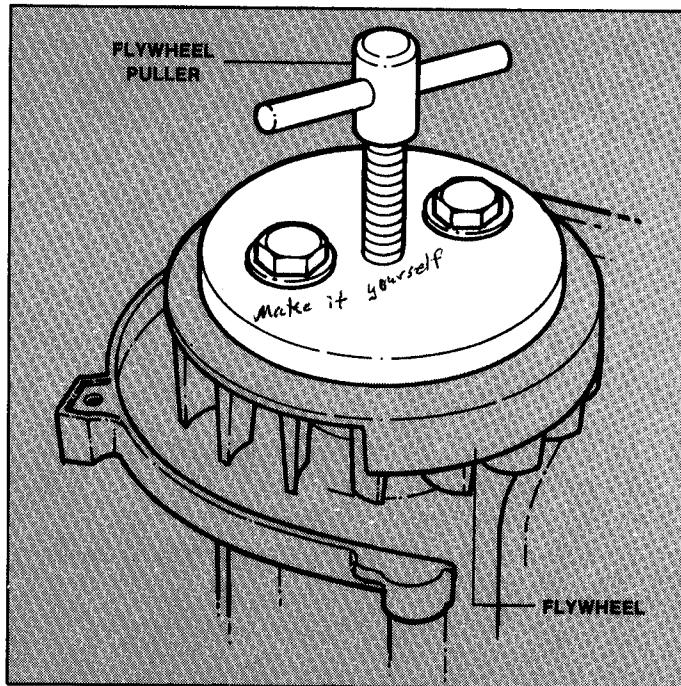

FIGURE 4.4
B. Use flywheel puller to remove flywheel. See Figure 4.4.